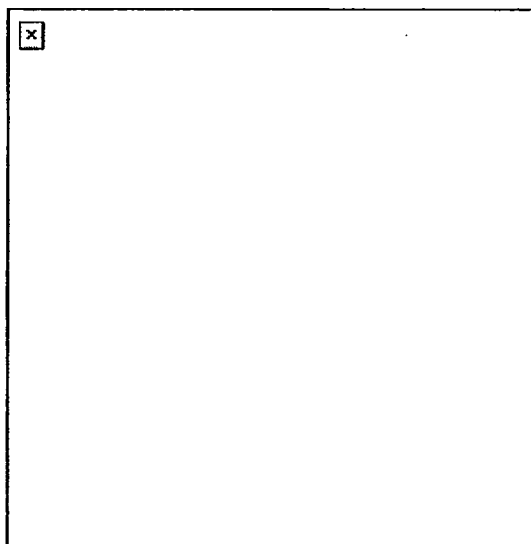

Figure 191-381-1369-4
- b. Lift the internee to waist height on receipt of the command, "Team, lift" (Figure 191-381-1369-4).